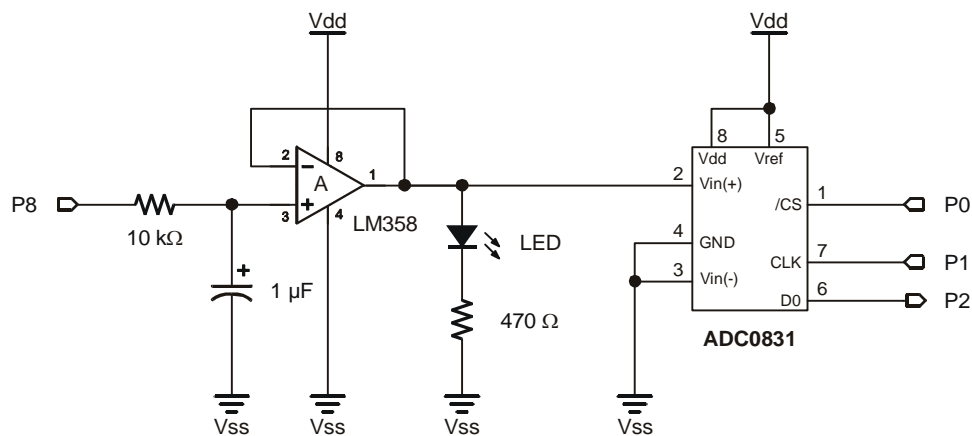

Figure 7-8: PWM DAC with Op-amp Buffer and a Load
Place a voltage follower in between the D/A output and an LED circuit input as shown in Figure 7-8, then run Program Listing 7.1 again.
4. Write a program that tells you the measured resistance value of the photoresistor from Figure 7-8. Hint: Apply the voltage divider equation and use the existing DVM program. You will need to modify the `Calc_volts` and `Display` subroutines.